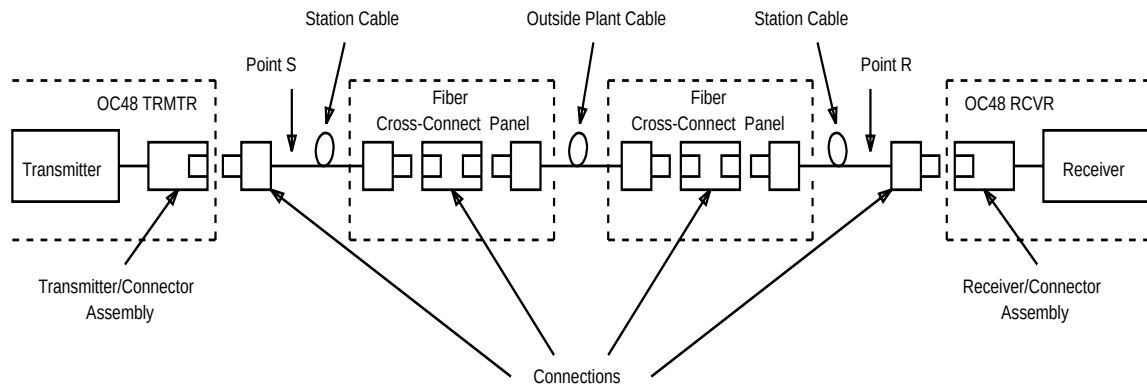

Figure 10-1. Optical System Interfaces
The FT-2000 OC-48 Lightwave System is designed to meet the OC-48 loss budget specifications shown in Table 10-1, Table 10-2, and Table 10-3. The transmit and receive powers are referenced to points S and R in Figure 10-1.
* Transmit and receive powers are referenced to points S and R as shown in Figure 10-1.
*Transmit and receive powers are referenced to points S and R as shown in Figure 10-1.